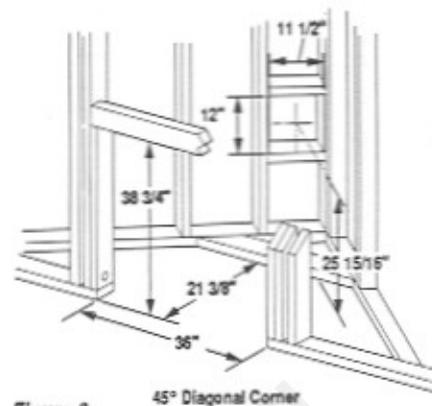

Figure 9
**Step 1.** To install the appliance in a 45° diagonal corner frame as illustrated in Figures 9, 10 and 16. If appliance is to be elevated above floor level, a solid continuous platform must be constructed. The header may rest on the top metal spacers but must not be notched to fit around them.